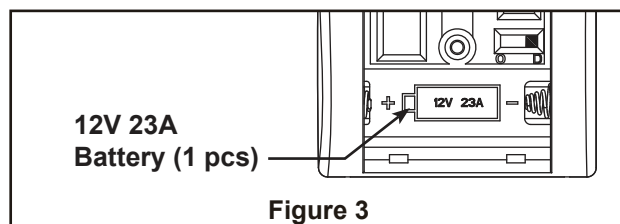

Figure 3
- 3.** To make fan operational, install 23A/12V battery (included) in hand-held remote transmitter, with fan power off. Then follow the remote code setting process. (If not used for long periods of time, remove battery to prevent damage to transmitter). Store the remote away from excessive heat or humidity. (Figure 3)